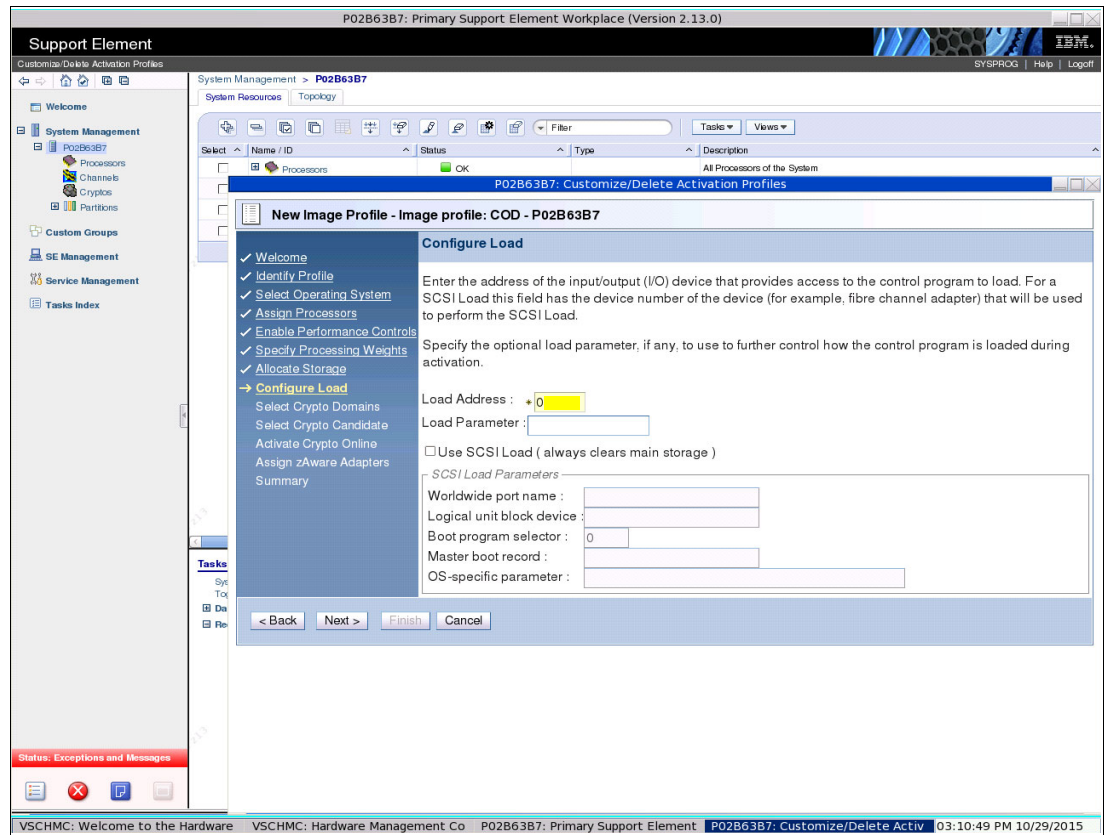

Figure 5-38 Load configuration
10. For the Load configuration, we use the default value because there is no operating system that is installed on any I/O device (see Figure 5-38). Then, we select **Next**.